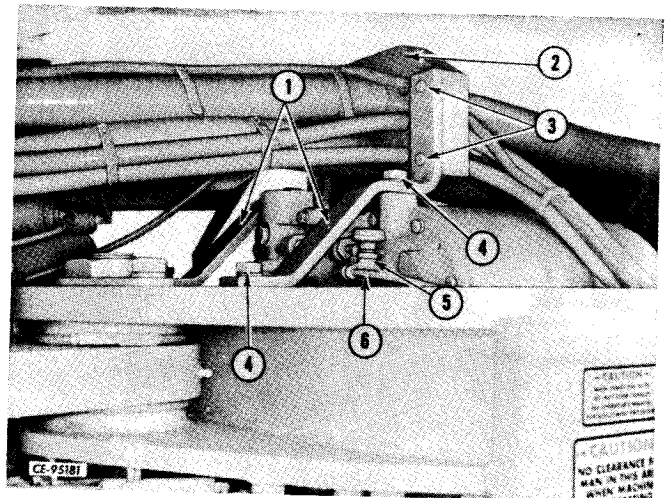

Figure 4-80
Install supports (1, Fig. 4-80) and secure with cap screws (4) and lock washers. Position hose pad (2) and secure with cap screws (3) and nuts. Connect line (6) to breather (5).